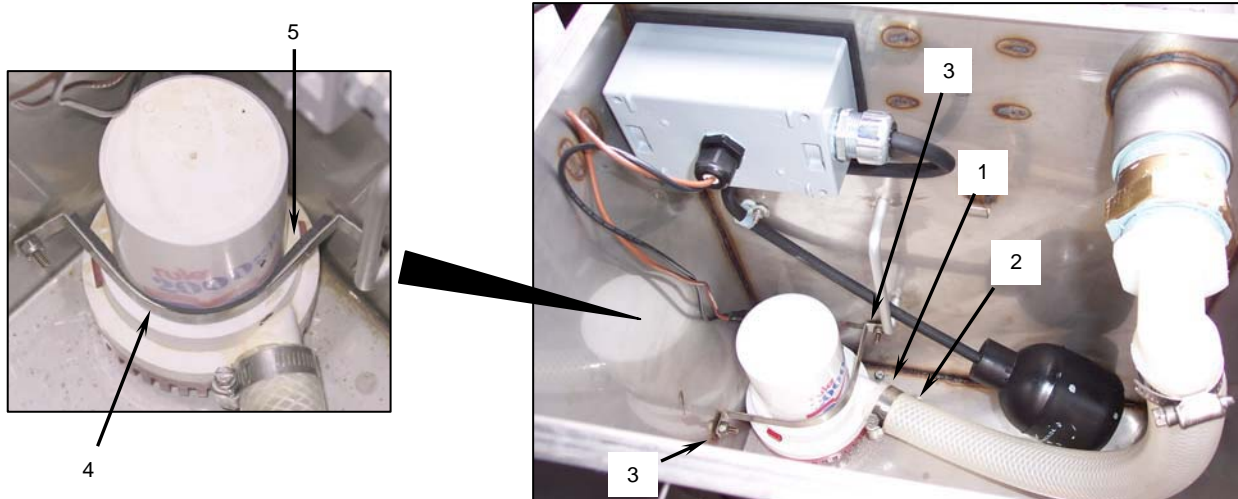

Figure 1. Removing the Grease Separator Pump Mounting Bracket.
- a. Loosen the hose clamp (**Figure 1, Item 1**) at the pump discharge outlet and work the pump discharge tubing (**Figure 1, Item 2**) off the pump discharge outlet.
- b. Remove the two self-locking nuts (**Figure 1, Item 3**), the pump mounting bracket (**Figure 1, Item 4**), and gasket (**Figure 1, Item 5**).